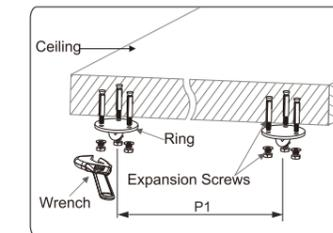

Figure 1
1. Fix the rings (not accessories) on the ceiling according to the distance P1 between two hooks (note: make sure each of rings can endure at least 100Kg to avoid falling down) (figure 1).